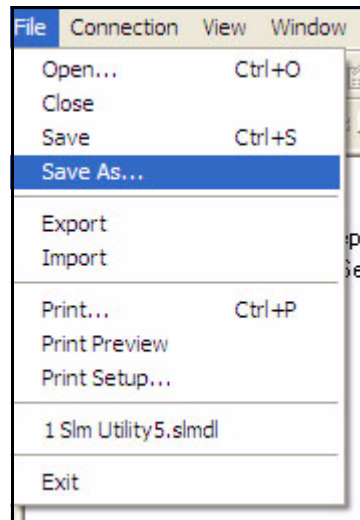

FIGURE 4-17 File/Save As Menu
Step 2 Click **File** and left click **Save As** shown in FIGURE 4-17.